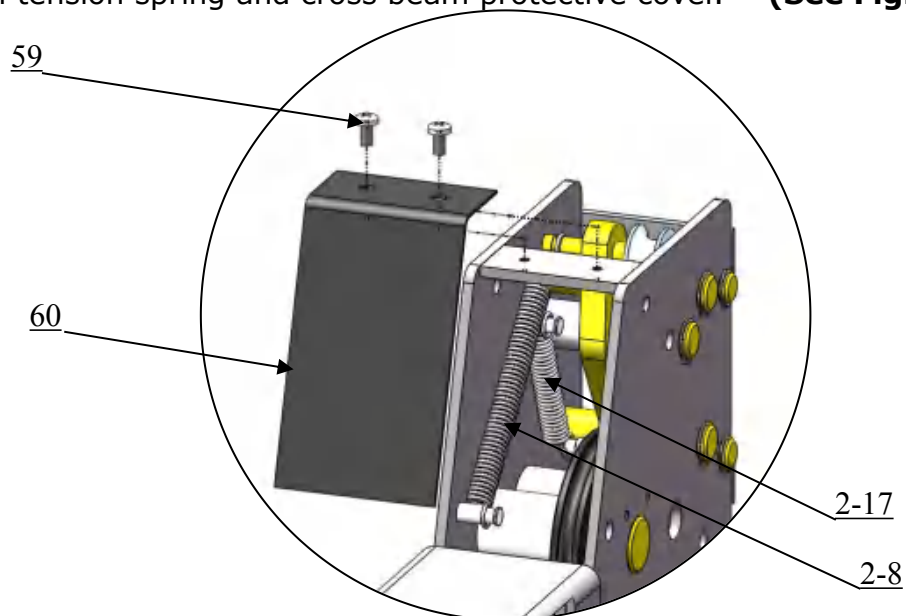

Fig. 29
4. Install tension spring and cross beam protective cover. **(See Fig. 29).**